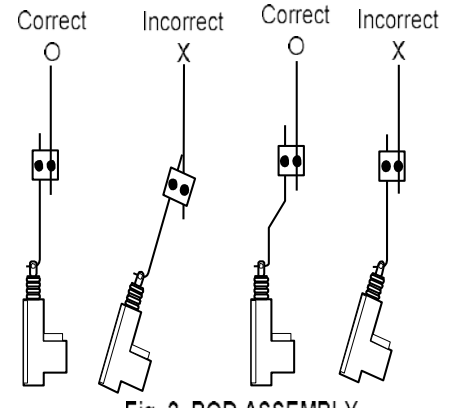

Fig. 2 ROD ASSEMBLY
- Align the actuator in the correct direction as shown in Figure 1a, Figure 1b, and Figure 2. Make sure the actuator does not obstruct any moving part within the door (window and associated mechanism). Move the window up and down to ensure it will not interfere with the actuator. Make sure the actuator rod moves parallel with the vehicle's lock rod.
- Ensure the actuator's rods are parallel with the vehicle's lock rod, as shown in step 2 (See Fig 2. in Step 2) Otherwise the actuator may not function properly or become permanently damaged.